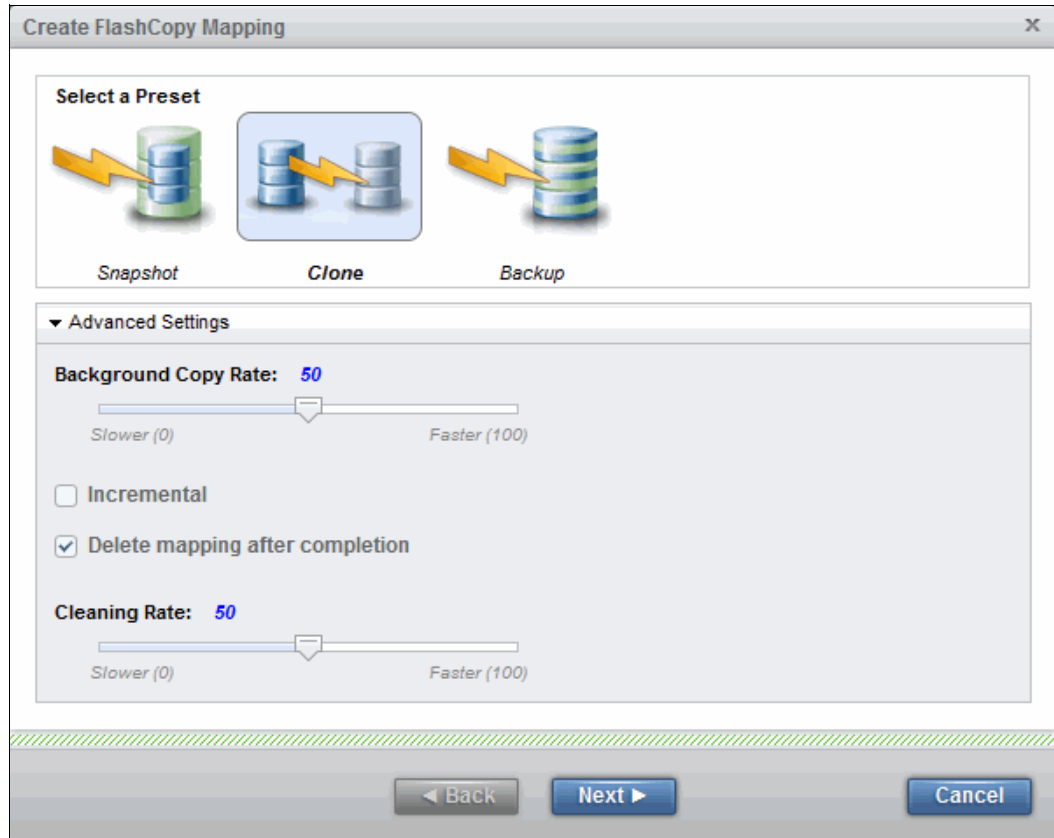

Figure 10-17 Default settings for the clone preset
b. The following Advanced Settings for the *Clone* preset are shown in Figure 10-17: